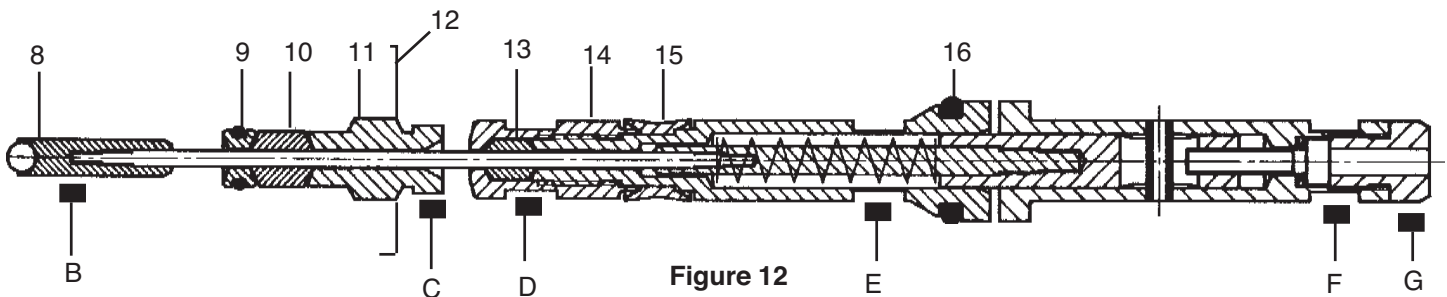

Figure 12
3. Unscrew seal screw (11/C) from gun body. Figure 12.
4. Carefully remove complete valve rod by pulling end of rod (12). Figure 12.
5. Hold the rod valve using the universal spanner at surface (F) and using a pliers turn the valve seal (8/B) and remove. Fig. 12.
6. Remove compression ring (9) and front seal (10). Figure 12
7. To remove push rod cap (14) hold universal spanner at surface (E) and unscrew at surface (D). Figure 12.
8. Replace compression ring with O-Ring (9), front seal (12), rear seal (11) and if necessary push rod seal (15) and O-Ring (16) of the air valve. Figure 12.